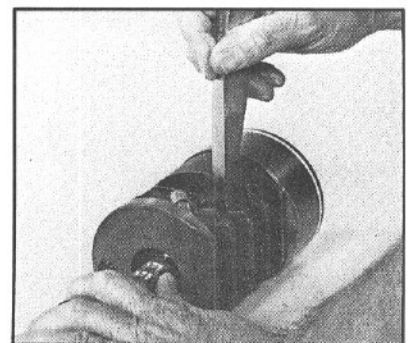
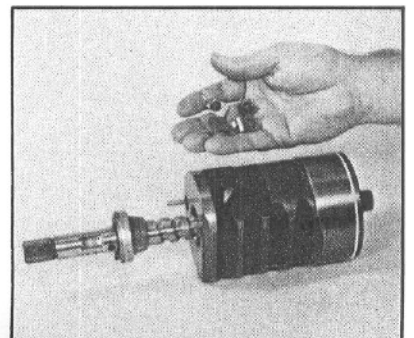

Figure 63
Figure 64
31. For rack pistons with the ball return guide clip (44), bend the tangs down on the two locking tabs (45) (FIG. 63). Remove the two hex head bolts (46). Then, remove the clip (FIG. 64).